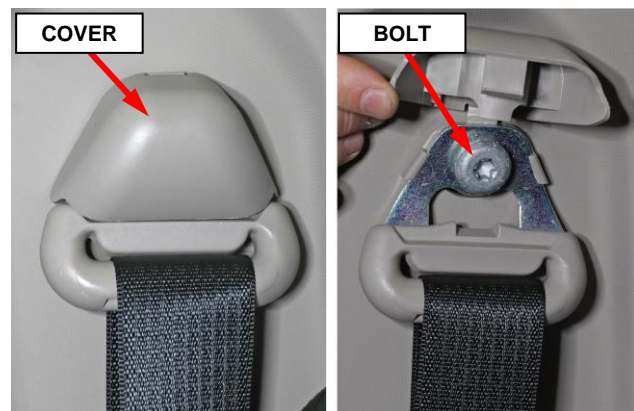

Figure 22 – Seat Belt Turning Loop
13. On the C-pillar, lift the seat belt turning loop cover then remove the turning loop bolt (Figure 22).
48. Using a **NEW** bolt and reusing the spacer, install the turning loop then tighten the bolt to 40 N·m (30 ft. lbs.) (Figure 22).
49. Install the seat belt turning loop cover (Figure 22).